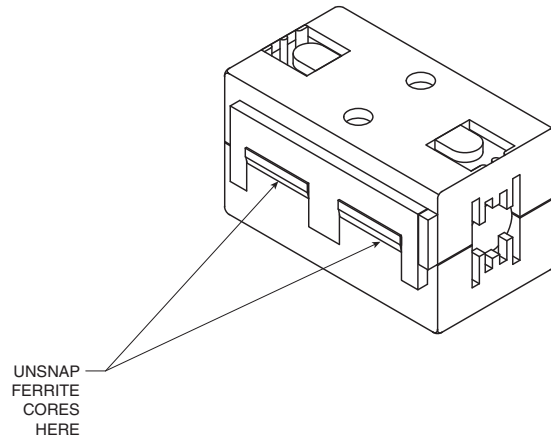

Figure 4-2 Ferrite Core
1. Using a small screw driver or other suitable instrument, unsnap the ferrite core to open it (as shown in Figure 4-2).